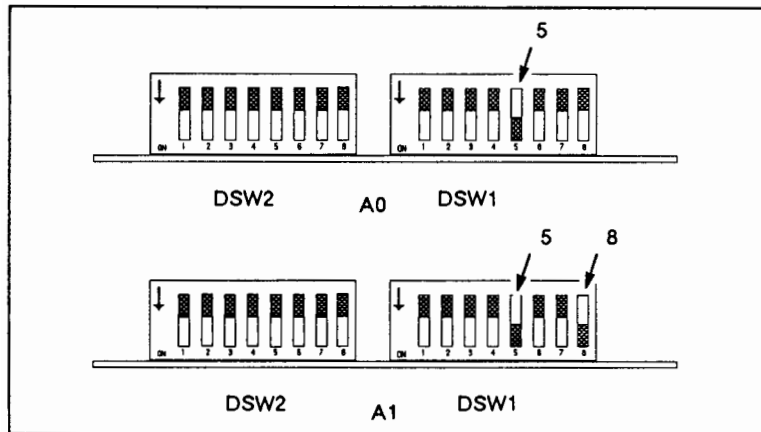

Figure 6-14. RMC PCA Switch Positions
- c. For the D/A1 plotter Model 250, also set DSW1 segment 8 to the ON (down) position. See Figure 6-14.